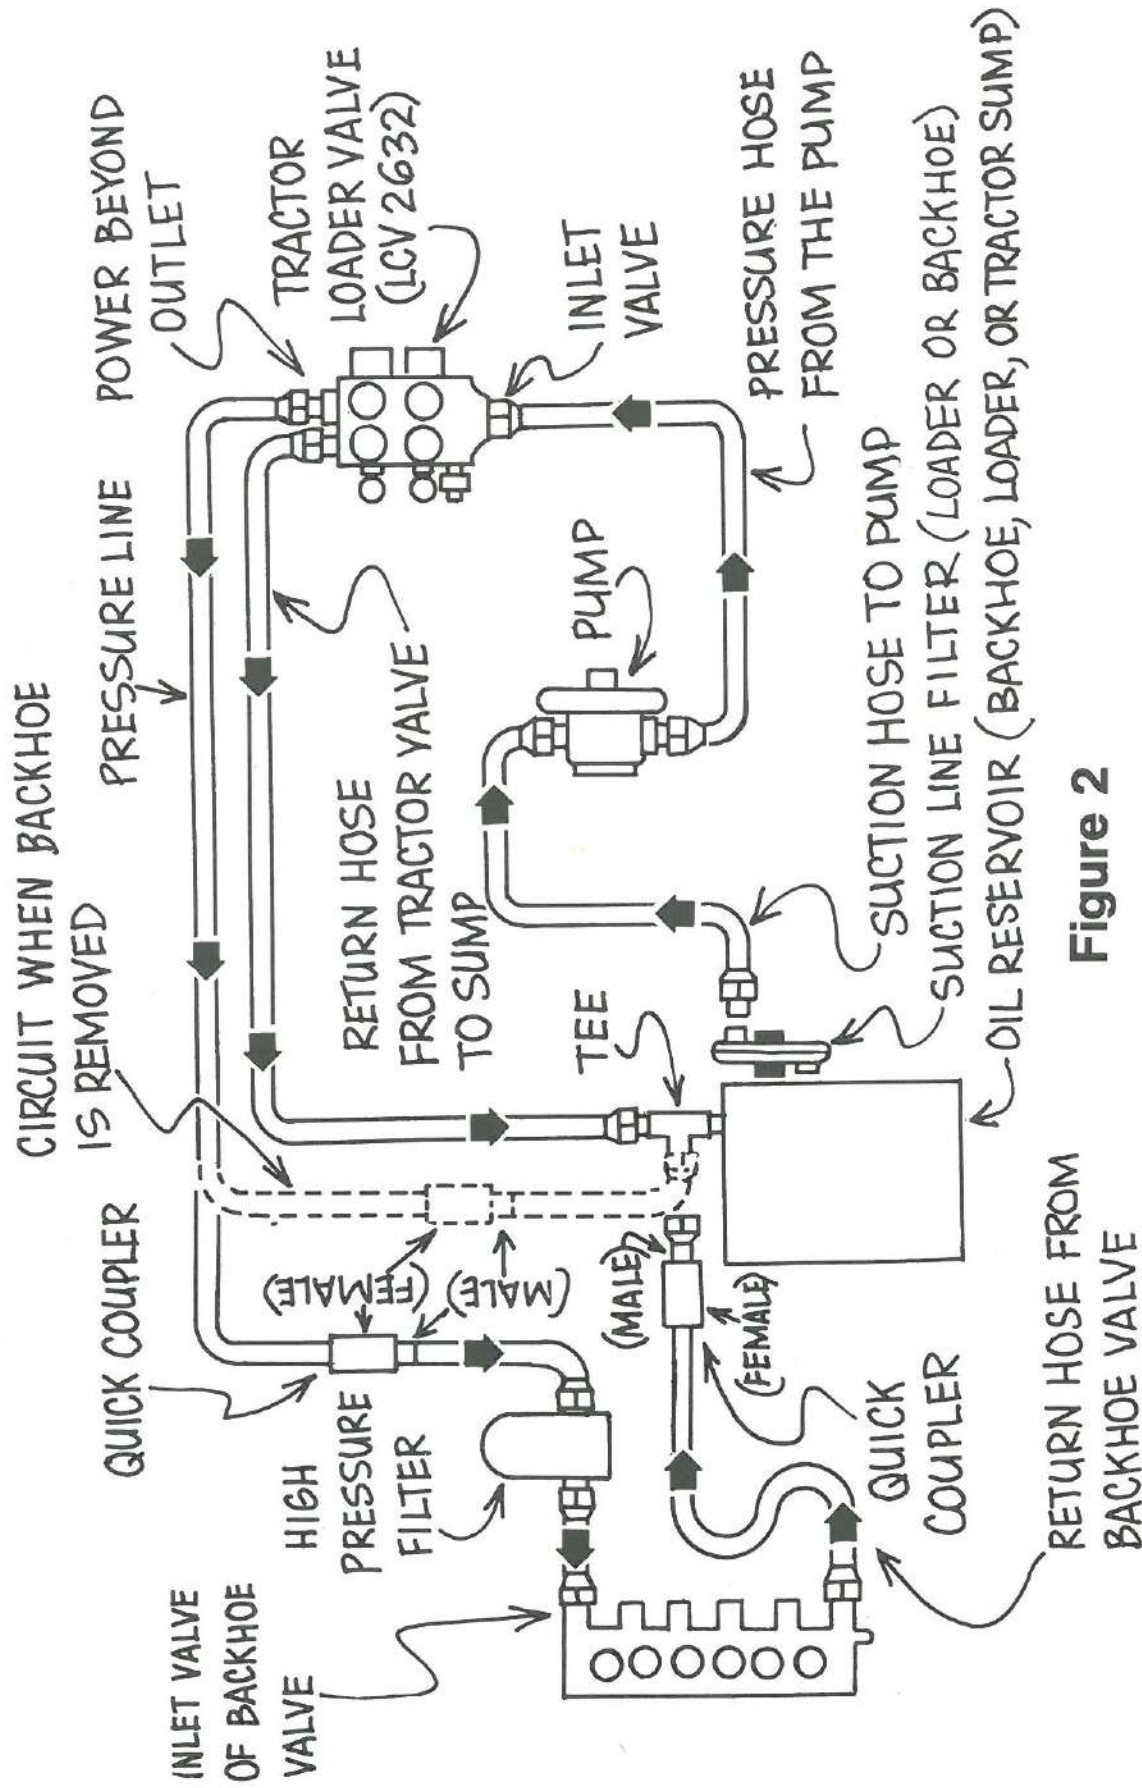

Figure 2
- d. If you wish to run both a loader and a backhoe off of the same hydraulic system, make your connection as illustrated in Figure 2 -- Power Beyond Hosing.